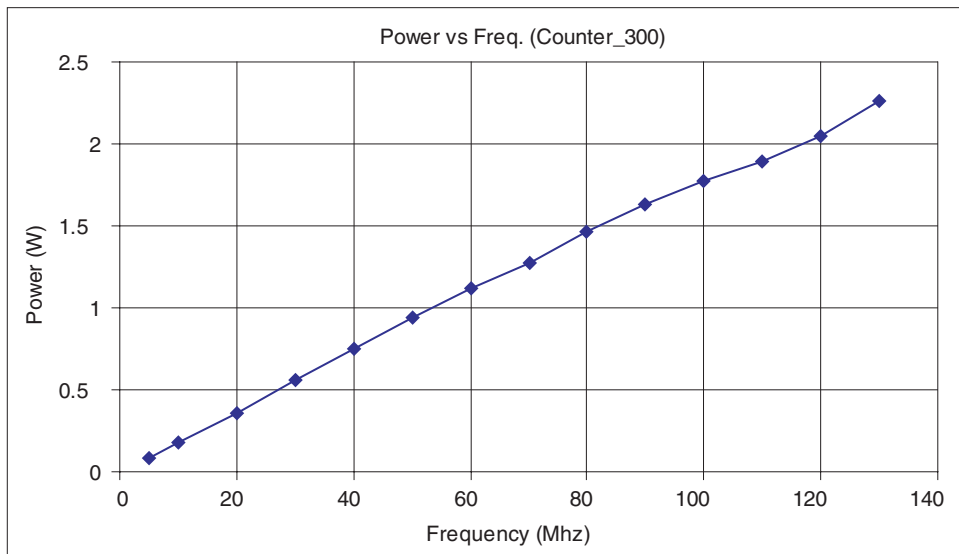

Figure 20: Power Consumption
Figure 20 exhibits the power consumption in an Eclipse QL6325 device. The chip was filled with (300) 8-bit counters—approximately 76% logic cell utilization.